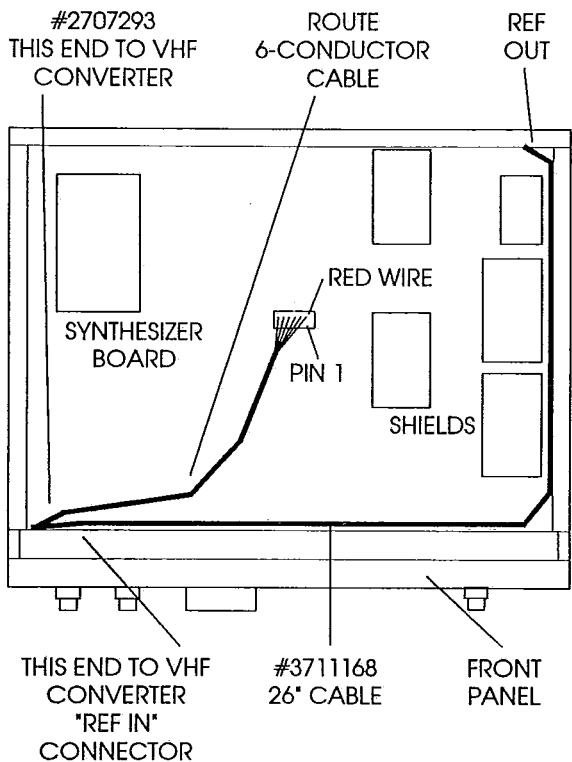

FIGURE 4 R8 BOTTOM VIEW
6) With the converter assembly now secured in the chassis with 6-conductor cable attached, position the R8 so it rests on its left-hand side (facing front of receiver). Locate the unconnected end of the 6-conductor cable and connect it to the synthesizer board connector in the orientation shown in Figure 4. Be careful to align the **RED** conductor on **PIN 1** of the synthesizer board assembly connector header. Position the cable assembly so that it routes as shown. Reduce any excess slack cable length near the VHF converter to provide the proper routing on its approach to the synthesizer board connector header.
7) Connect the supplied 26" 'REF' coaxial cable #3711168 to the 'REF OUT' connector located near the right rear corner of the synthesizer board. Position the cable as shown in Figure 4, routing the free end of the coax cable along the front panel (near volume control) and up to the VHF Converter assembly end nearest the front panel.